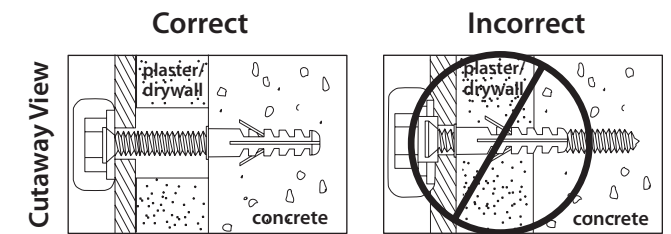

Figure 2
- Pre-drill holes into concrete using 5/16" drill bits to a depth of 2-1/2". Insert concrete wall anchors (B) and tap in-with hammer, if necessary (Figures 2 & 3).